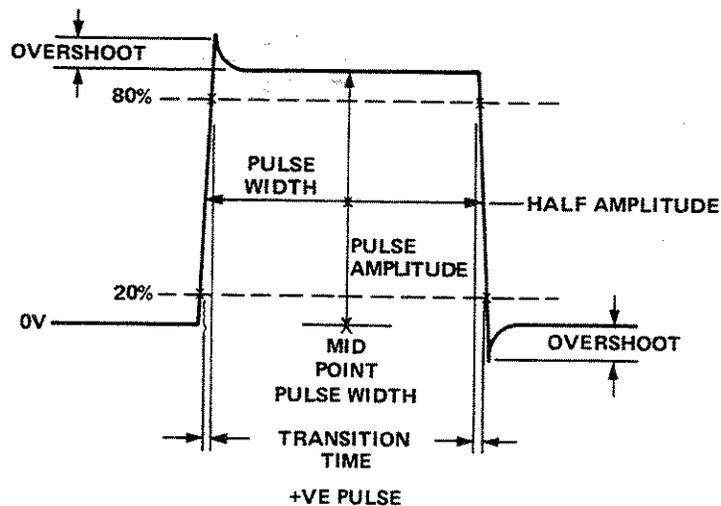

Figure 8-9 Pulse Characteristics
- Check the pulse has the following characteristics (refer to Figure 8-9 for details of pulse characteristics):